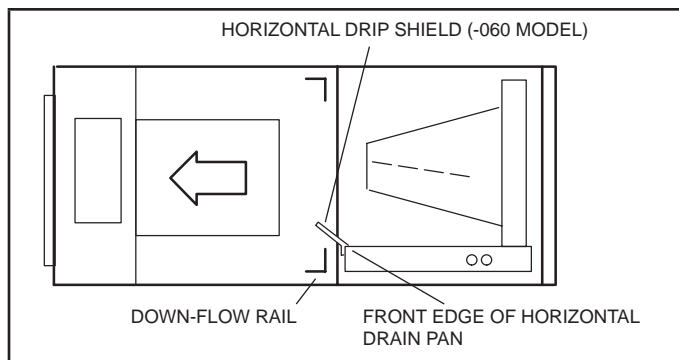

FIGURE 5. Left-Hand Discharge Configuration
- 10 - Install the horizontal shield (-060 model) on the front edge of the horizontal drain pan as illustrated in figure 5.